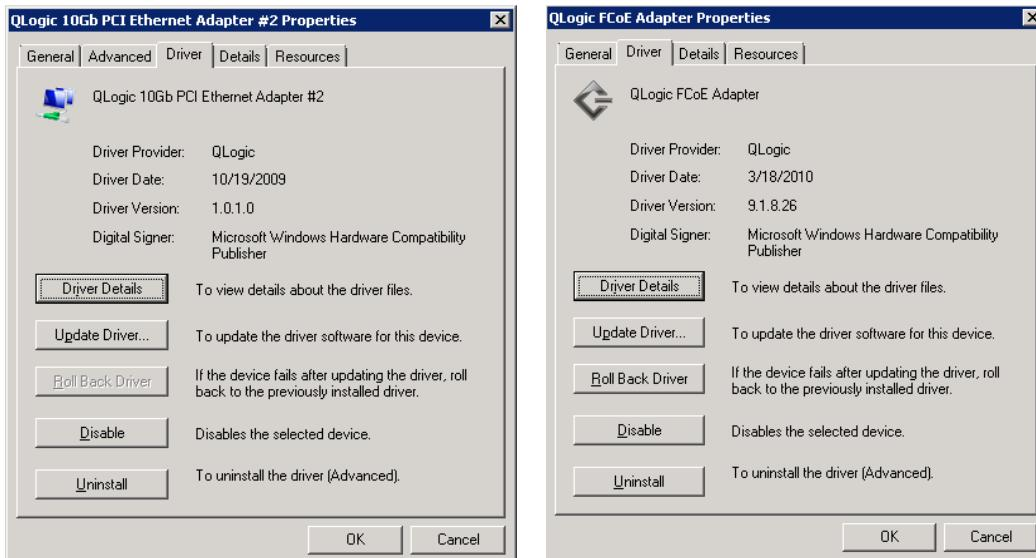

Figure 3-44. NIC and FCoE Adapter Driver Properties
- d. In the Properties dialog box, click the **Driver** tab and find the field Driver Version field. Figure 3-44 shows an example of a NIC adapter driver (version 1.0.1.0) and an FCoE adapter driver (version 9.1.8.26).